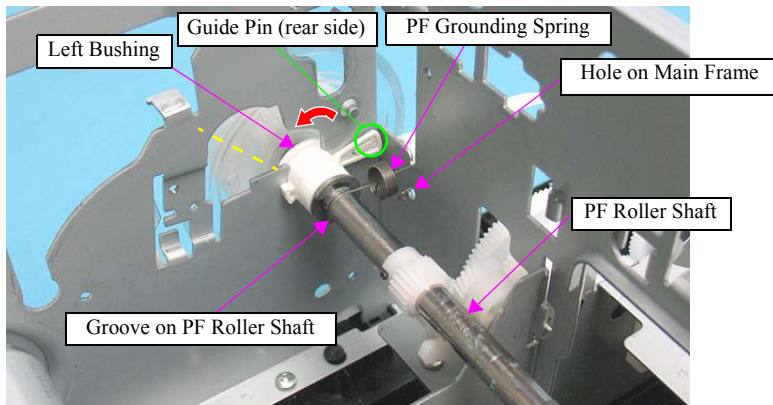

Figure 4-232. Removing the PF Roller Assy (2)
- Make sure that the PF grounding spring leg on the frame side is properly attached to the hole on the Main Frame as shown in Figure.4-232.